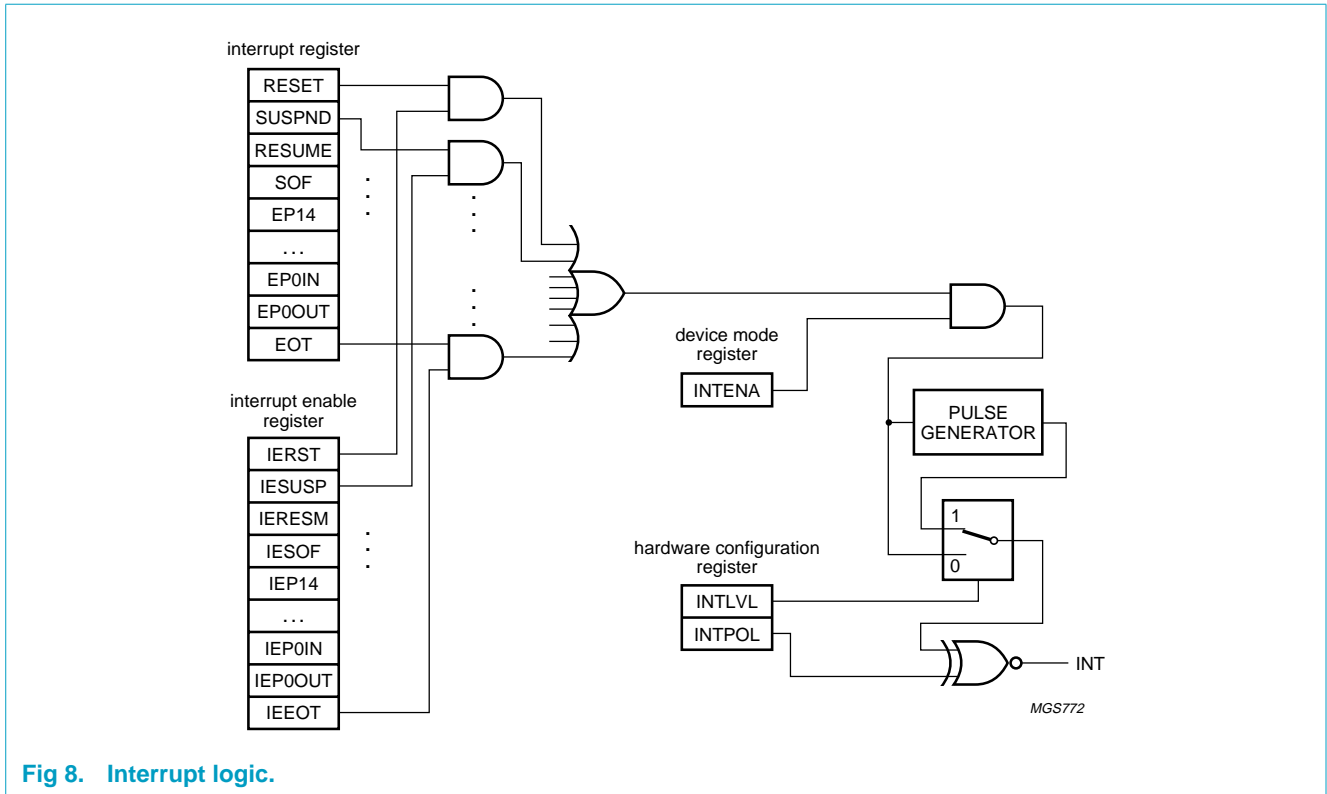

Fig 8. Interrupt logic.
**Figure 8** shows the interrupt logic of the ISP1181A. Each of the indicated USB events is logged in a status bit of the Interrupt Register. Corresponding bits in the Interrupt Enable Register determine whether or not an event will generate an interrupt.